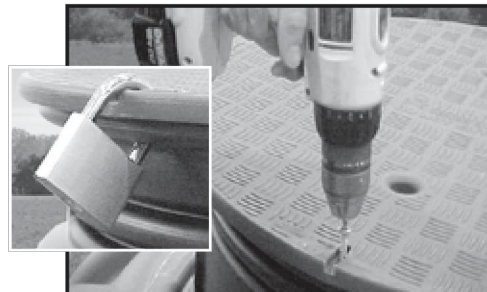

FIG.6 Secure Cover
STEP 6 Locate the "Secure Here" hole on the cover and install a tamper-resistant screw (STAR-SSCREW provided) through the lid and into the riser below. (Fig.6) To secure with padlock, drill a larger hole to accommodate the lock.